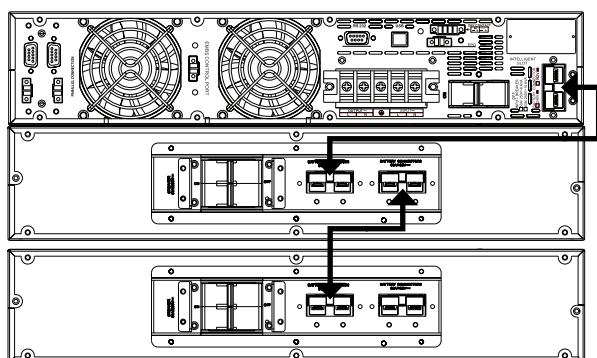

Fig. 13. Connection to battery modules.
- Fig. 13 shows the connection of a 10 kVA device in a rack arrangement with two battery modules. For a larger number, proceed in a manner similar to those shown in the illustration.